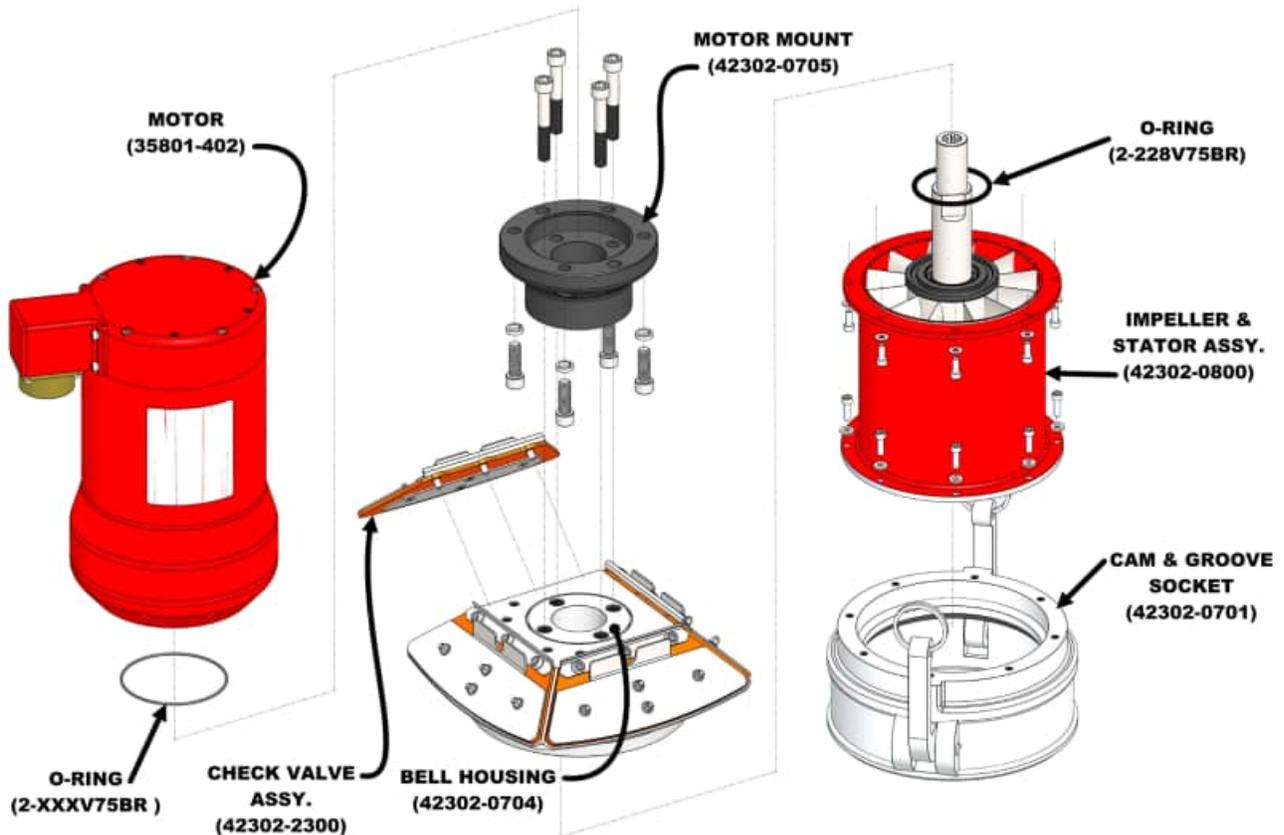
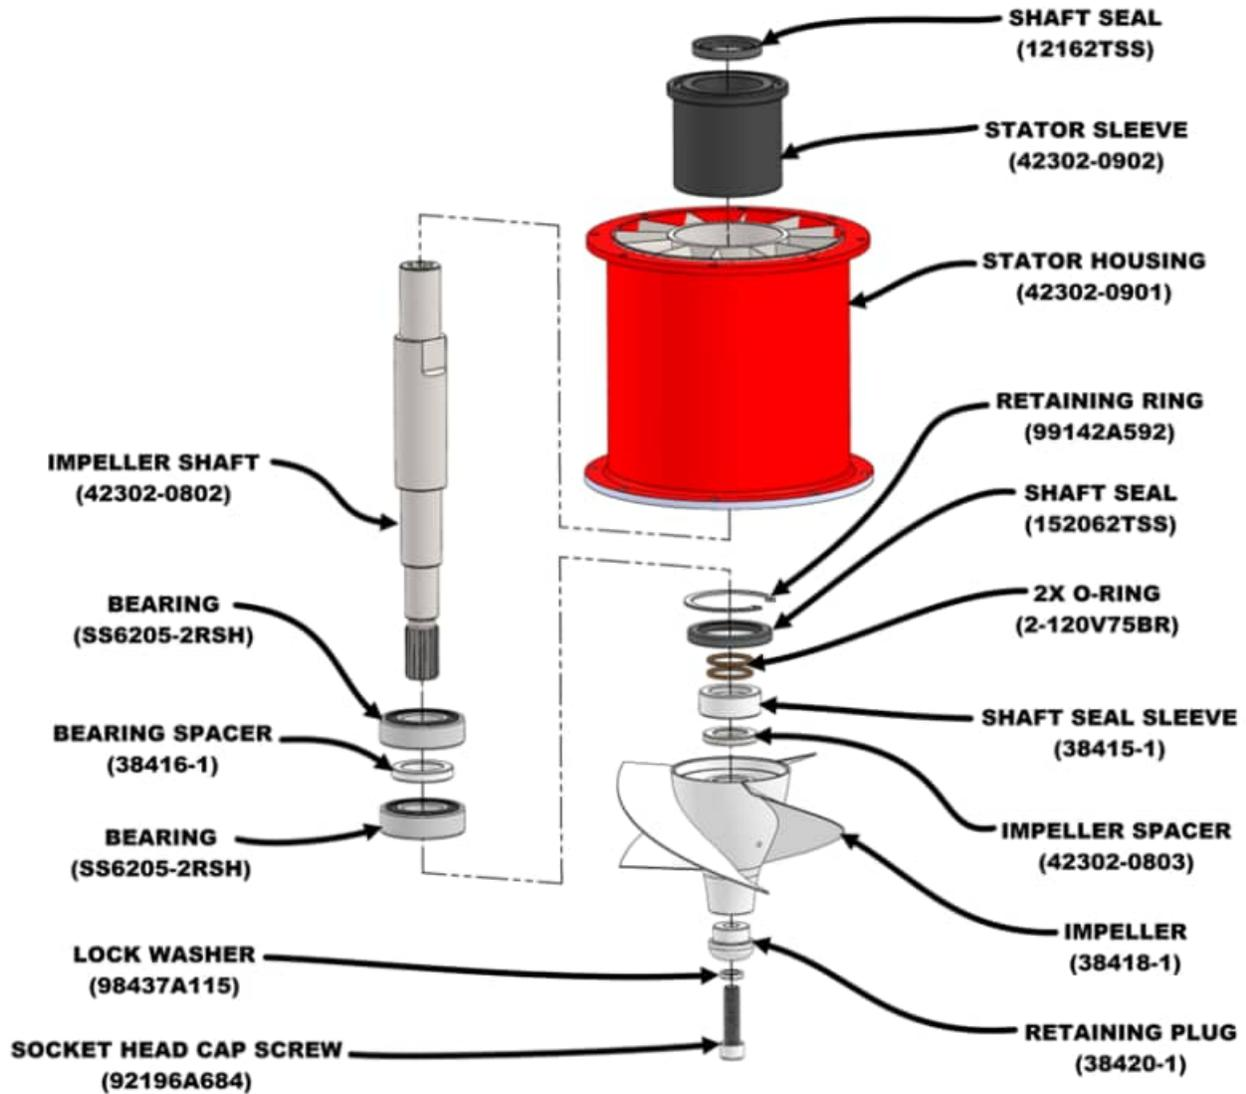

Figure 29: Bucket Refill Pump Disassembly (Motor Guard hidden for clarity)
Figure 30: Impeller and Stator Assembly
1. Motor Removal (see **Figure 29**)
2. Pump & Stator Disassembly (see Figure 29 and Figure 30)